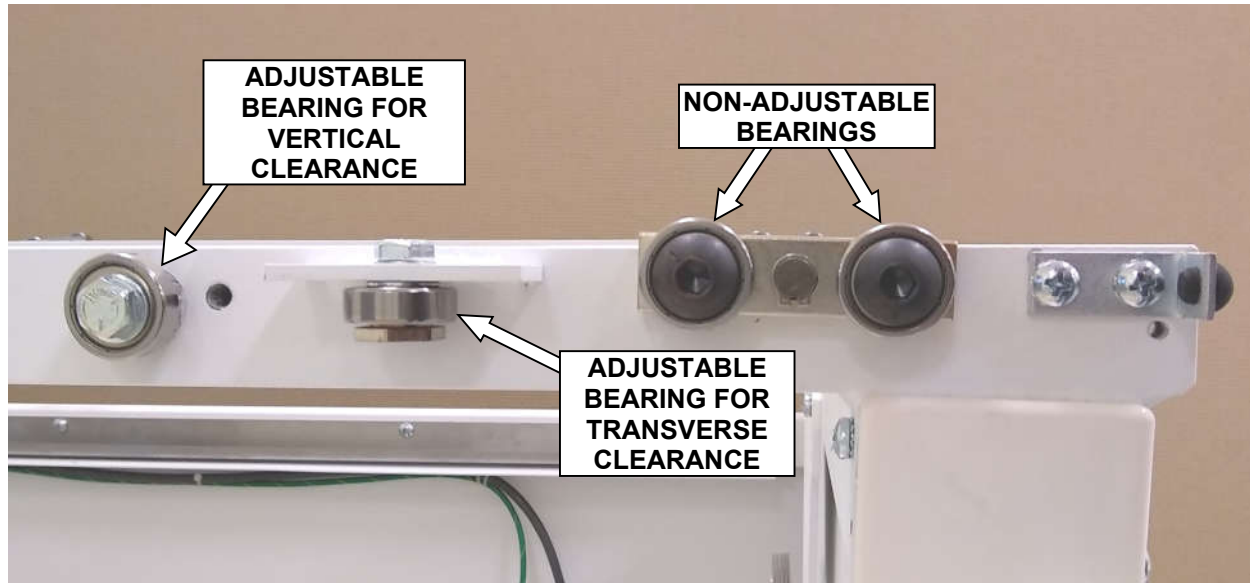

Figure 5
5. Check for vertical and transverse clearance between bearings and table top channel. If clearance is too great or too small, adjust the bearings as necessary (see Figure 5).